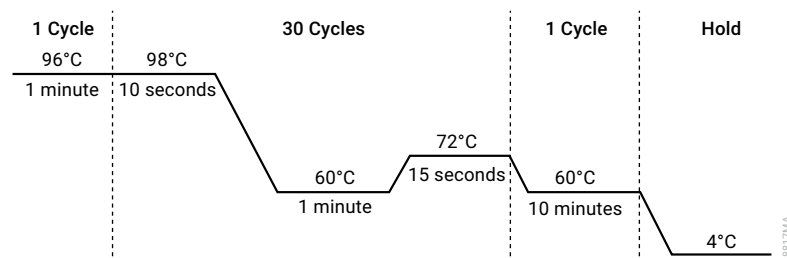

Figure 2. The thermal cycling protocol for the Mastercycler® X50s PCR System.
2. Select and run the protocol provided below and in Figure 2. The total cycling time is approximately 75 minutes.